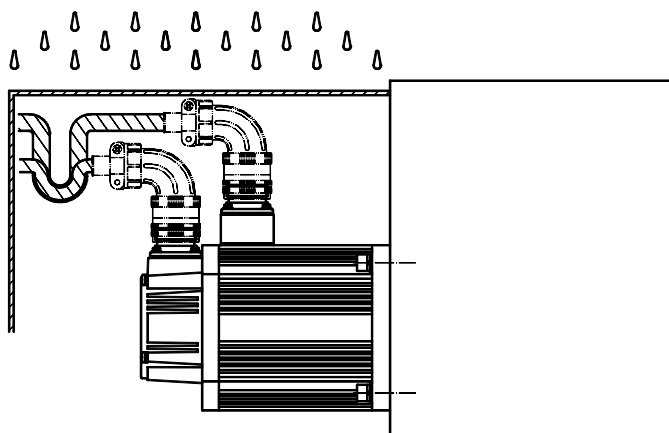

Fig. 6
7.1 The 3-phase windings U, V, W of the motor and the shell (grounding) are led out by a 4-core socket connector and the correspondence table is as Fig.6: U, V, W and the shell of the motor are connected with the circuit U, V, W, PE terminals of the driver respectively.
10.4 Some protection measures should be taken if the motor socket connector side must face upward by the machine structure requirement (see Fig.6).